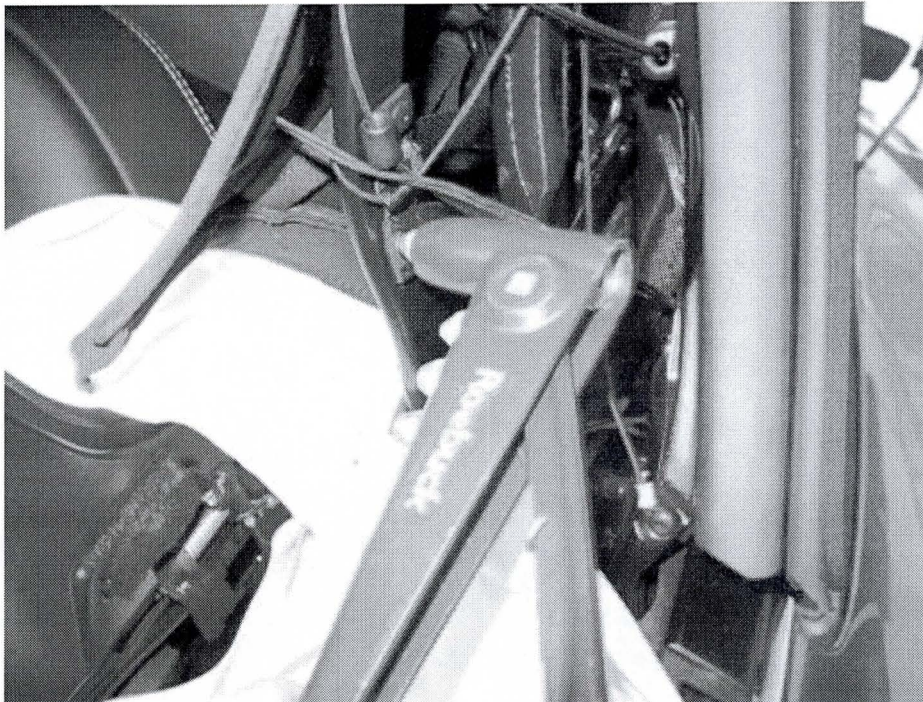

Figure 8
3. Re attach the strap with a new oversize rivet (part 'B' figure 1) (see Figure 8)